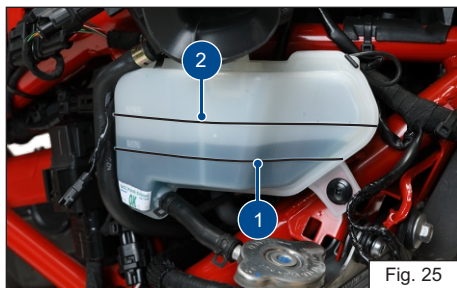

Fig. 25
- ♦ The coolant level should be between minimum and maximum level (1 & 2) on the tank (ref. Fig. 25).